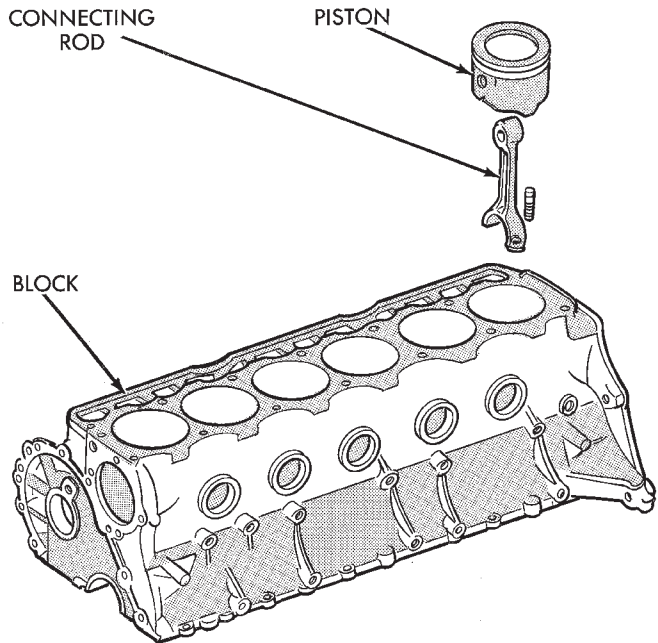

Fig. 55 Removal of Connecting Rod and Piston Assembly
- (12) Have an assistant push the piston and connecting rod assemblies up and through the top of the cylinder bores (Fig. 55).